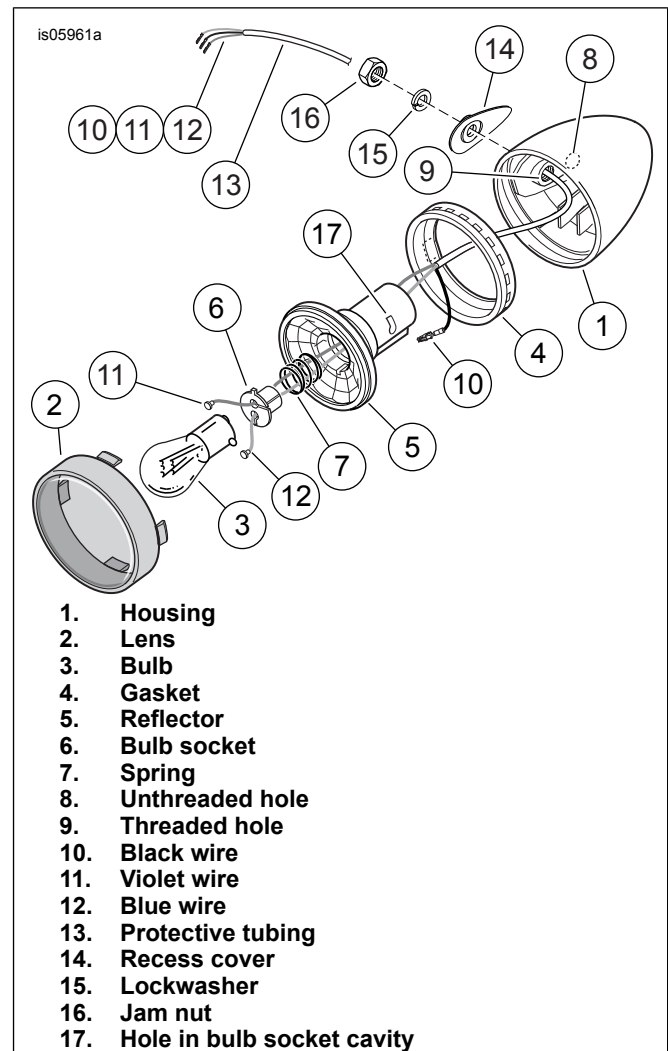

Figure 2. Stop/Tail/Turn Signal Lamp (Right Side Shown)
9. See Figure 2. Insert the blade of a small screwdriver into the slot at the bottom of the lens (2) of the left-side STT lamp, and twist to unsnap the lens from the housing (1). Push the bulb (3) in and rotate counterclockwise to remove. Set the lens and bulb aside for later installation.